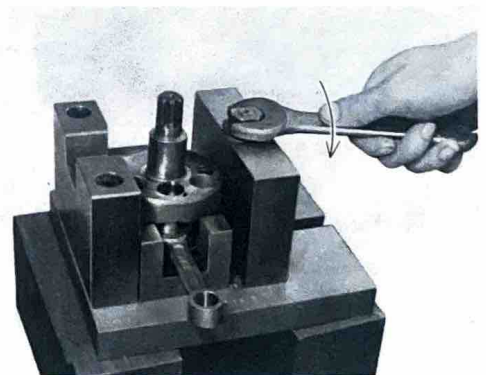

Fig. 4-17-15
- 4) Tighten the slide plate lock nut fully. (Fig. 4-17-15)